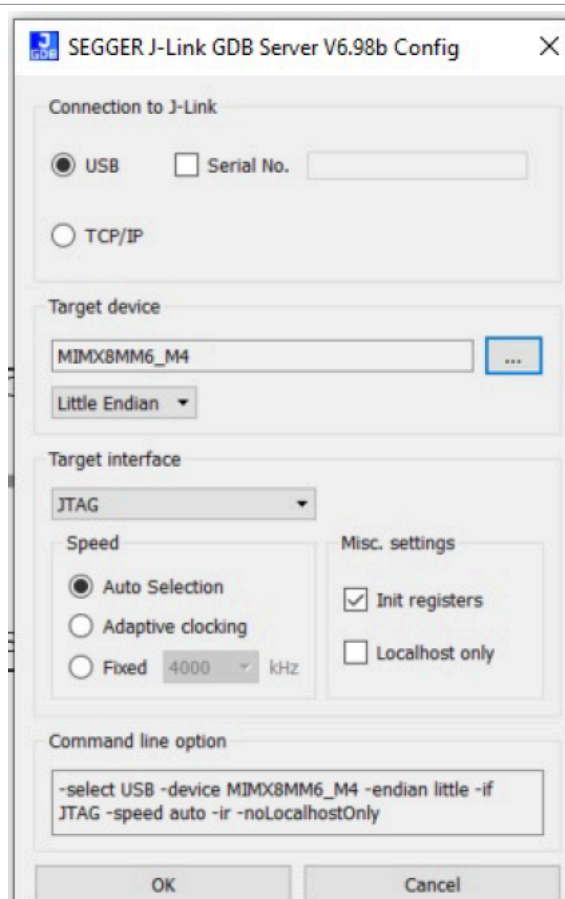

Figure 126. J-Link GDB Server application window
- After server is launched, modify the settings as shown in Figure 126. The target device selected for this demo is **MIMX8MM6\_M4**.